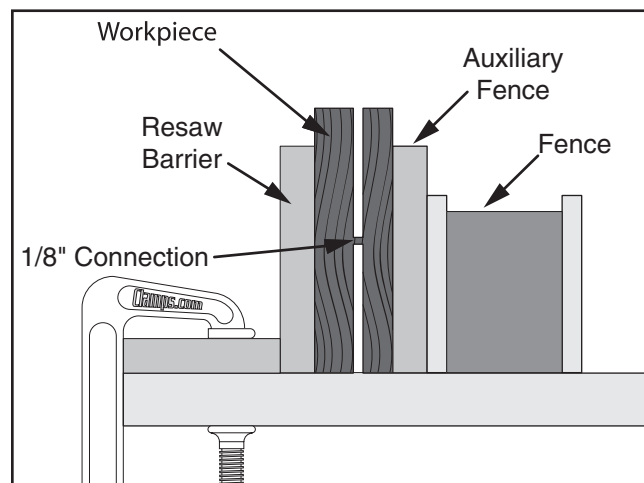

Figure 58. Ideal completed resaw cut.
4. Place the workpiece against the fence and slide the resaw barrier against the workpiece. Now clamp the resaw barrier to the top of the table saw (see **Figure 58**).
6. Raise the blade approximately an inch, or close to half the height of the workpiece (**Figure 58**), whichever is less.
9. Repeat **Steps 6–8** until the blade is close to half of the height of the board to be resawn. The ideal completed resaw cut will leave an $\frac{1}{8}$ " connection when the resawing is complete as shown in **Figure 58**. Leaving an $\frac{1}{8}$ " connection will reduce the risk of kickback.